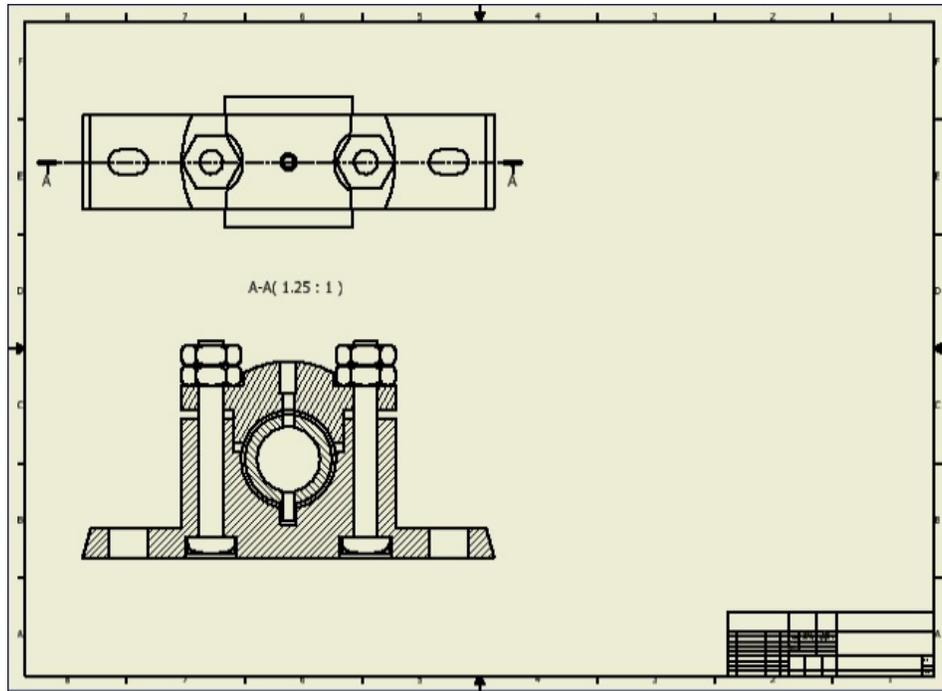

Figure 11-52 Sheet with the top view and the sectioned front view
7. Right-click and then choose **Continue** from the Marking menu to display the **Section View** dialog box. The preview of the section view attached to the cursor is displayed and you are prompted to specify the location of the section view. Specify the location below the top view, as shown in Figure 11-52.